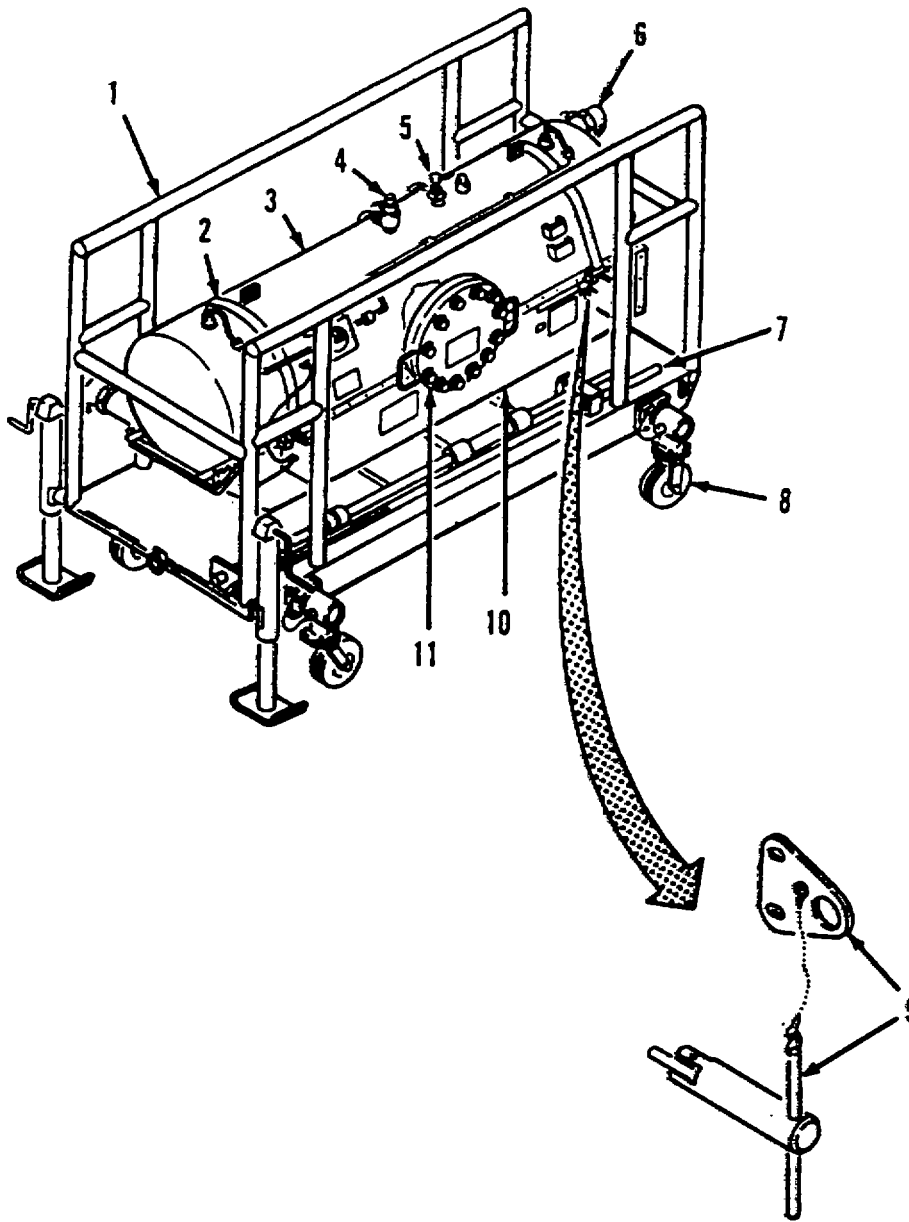

Figure 1-2. 200 GPM Filter-Separator Major Components, Items 1 - 11.
For items 1 through 11 refer to figure 1-2.